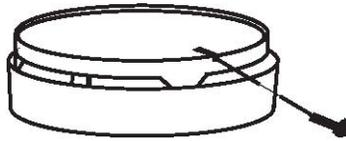

Figure 3: Tamper Resistant Locking Pin
- 6.7 To make your carbon monoxide alarm tamper resistant, a locking pin has been provided in the bag with the screws and anchors. Using this pin will deter children and others from removing the alarm from the mounting plate. To use the pin insert it into the hole in the side of the alarm after the alarm has been installed on the mounting plate (See Figure 3). Note the tamper resist pin will have to be removed in order to change the battery; this can be done easily with a long nose pliers. Using the long nose pliers pull the pin out of the hole, it is now possible to remove the alarm from the mounting plate.
- 8.2 To clean your alarm, remove it from the mounting bracket as outlined in Figure 2 Step C: Installation/Removal. IF TAMPER RESISTANT PIN HAS BEEN USED, REFER TO STEP 6.7 UNDER INSTALLATION INSTRUCTIONS FOR REMOVAL INSTRUCTIONS. (See Figure 3)
NOTE: IF TAMPER RESISTANT PIN HAS BEEN USED, REFER TO STEP 6.7 UNDER INSTALLATION INSTRUCTIONS FOR REMOVAL INSTRUCTIONS. (See Figure 3)